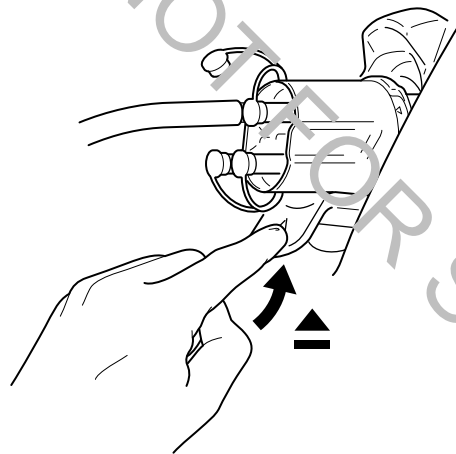

Figure 36 – Remove the Manifold
3. Push the EJECT button to remove the manifold from the receptacle (Figure 36). Maintain the manifold in a horizontal orientation.